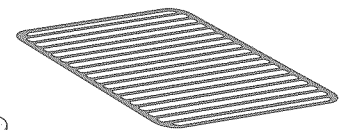

Figure 3
- If using a Searing Grill (see Figure 3 -available by mail order), preheat the grill for 5 to 10 minutes before placing your meat.